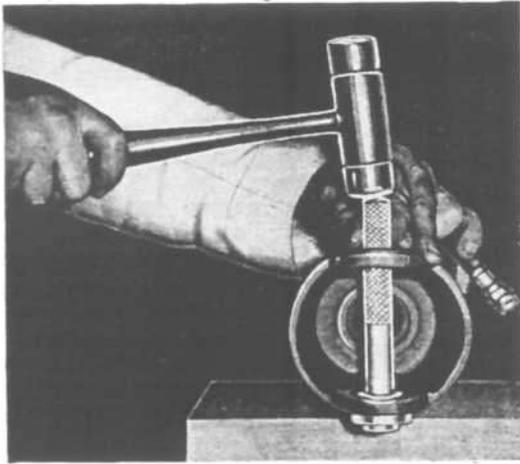

FIG. 235—SPINDLE PIN BEARING CUP DRIVER
- b. Remove the four screws holding the lower pivot pin bearing cap (12).
c. Remove the four screws holding the upper bearing cap in place. Remove the bearing cap. The steering knuckle (10) can now be removed from the axle.
d. Wash all parts in cleaning solvent. Replace any damaged or worn parts. Inspect the bearing and races for scores, cracks, or chips. Should the bearing cups be damaged, they may be removed and installed with Special Driver, Tool W-138, as shown in Fig. 235.